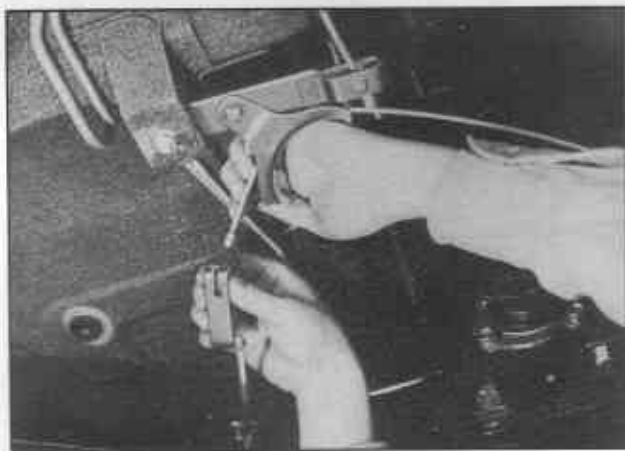

Fig. TM-5 Disconnecting hand brake wire
2. Disconnect the hand brake wire at the equalizer pivot as shown in Figure TM-5.